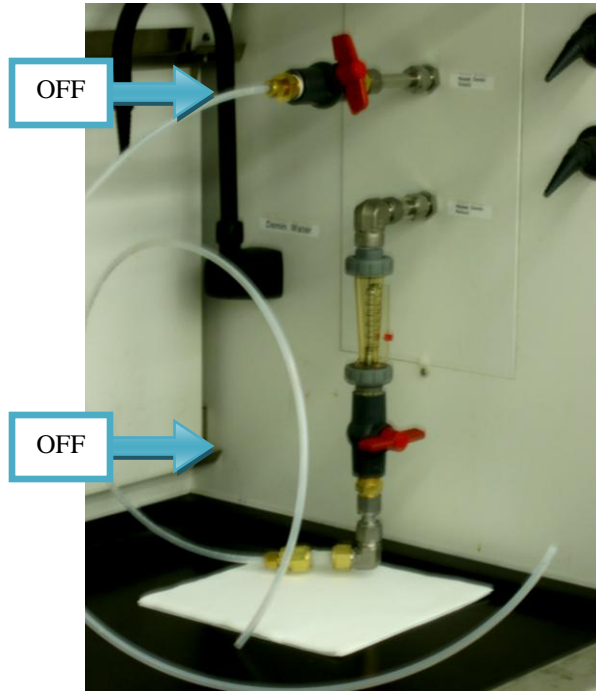

Figure 3 Water flow OFF
The Aisle 3 fumehood has been fitted with supply and return valves on the House Demin water. The return connection also has a flow meter installed on it. The pictures below (Fig. 3 & 4) show the orientation of the valves required to start and stop the water supply:
3. Firmly insert the supply and return water pipes (shown in Fig. 3) in the quick connect fittings on the back of the cold plate. The water pipes are not inserted properly until you feel a snap!